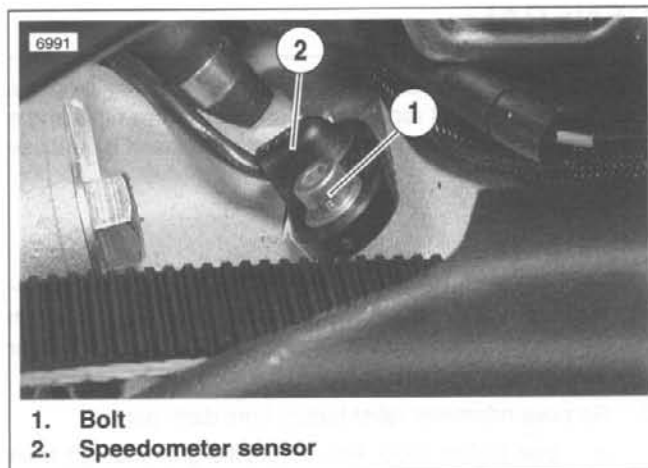

Figure 7-58. Speedometer Sensor
1. See Figure 7-58. Remove bolt (1) to detach speedometer sensor (2) from crankcase.
1. See Figure 7-58. Install bolt (1) to attach speedometer sensor (2) to crankcase.